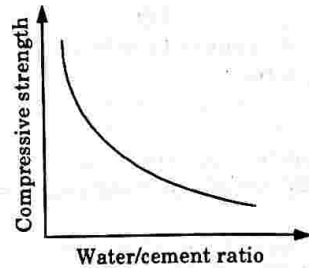

Fig. 1.28.1. Variation of strength.
- iii. However excess water reduces the strength of concrete. Fig. 1.28.1 shows the variation of strength of concrete with water cement ratio.